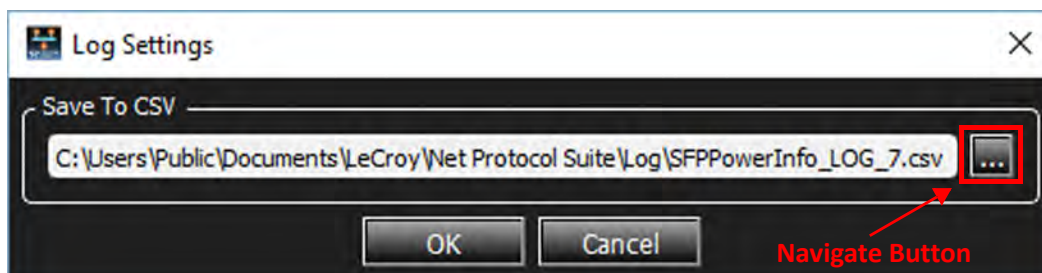

Figure 4.39: Path to Log Files for Net Protocol Suite
- To save your log file, select the **Log** tab . A dialog box appears where you can navigate to the Log File folder for Net Protocol Suite software (Figure 4.39).